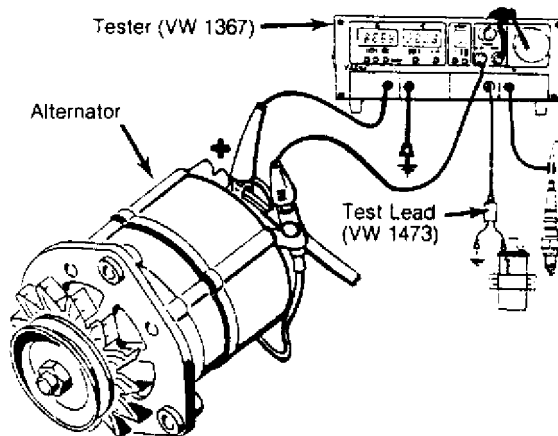
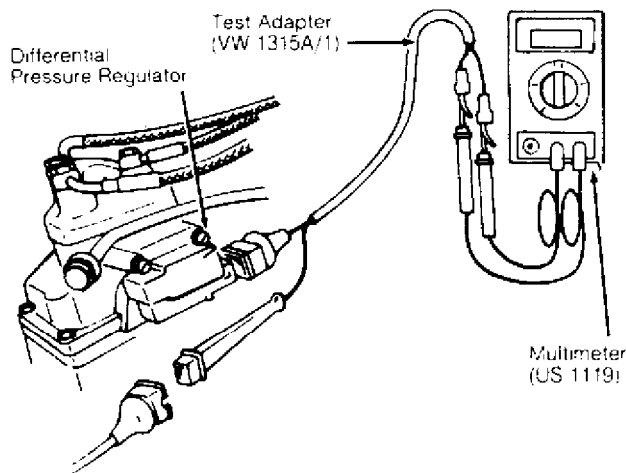

Fig. 3: Tester (VW 1367) & Test Lead (VW 1473) (Vanagon)
Fig. 5: Digital Multimeter Hook-up
4) Ensure that idle stabilizer valve hums/vibrates when ignition is turned on. Ensure test equipment is properly connected. See Fig. 3. Using Adapter (Sun 120.239), connect CO tester at probe receptacle on left exhaust pipe.
5) On all models, connect an inductive tachometer or Tester (VW 1367) and Test Lead (VW 1473). See Fig. 3. Remove C0 probe receptacle cap and connect C0 meter. Ensure fit is snug to prevent exhaust leaks. Connect Digital Multimeter (US 1119) with Adapter (VW 1315 A/1) to differential pressure regulator. See Fig. 5.